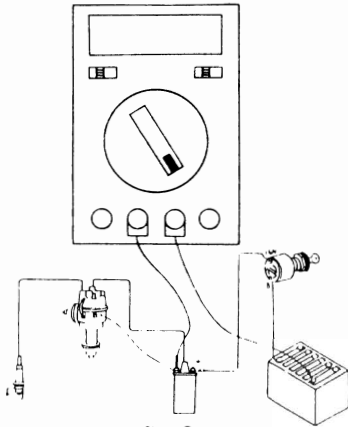

fig. 3
* The wire connection diagram please ref. fig. 3.